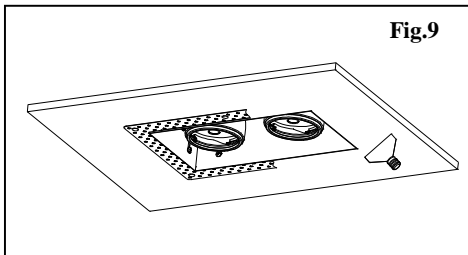
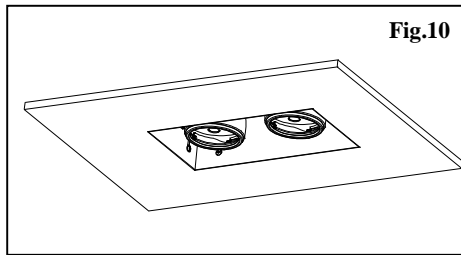

Fig.9
Fig.10
- b. Apply plaster over screen panel and sand surface when dry for a finish look (as Fig.9 and Fig.10).